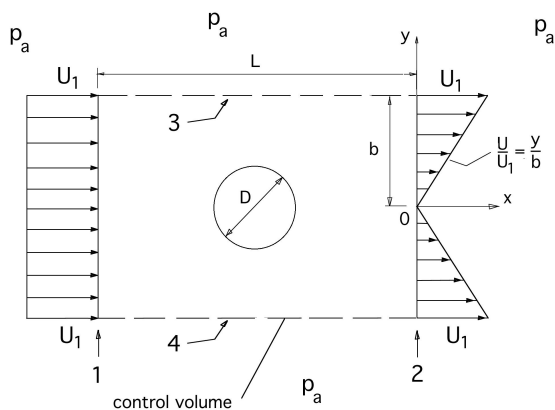

Figure P3.54
3.54 A fluid of constant density ρ flows steadily over a cylinder that is located far from any solid boundary, as shown in Figure P3.54. Upstream, the flow has a uniform velocity U_1 , and downstream the velocity distribution in the wake is triangular with a maximum value of U_1 , as shown below. The pressure is atmospheric everywhere. For the control volume shown, the x -component of the velocity is uniform on every surface of the control volume and equal to U_1 .